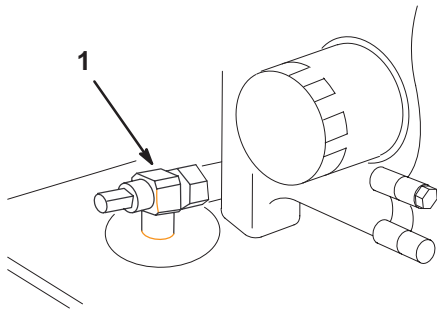

Figure 36
3. Place a pan below the oil drain. Use either a flat screw driver, 3/8 inch wrench, or 10 mm wrench to open the valve (Fig. 36).
4. Rotate the valve end clockwise to close the valve. Rotate the valve end counterclockwise to open the valve (Fig. 36).
5. When the oil has drained completely, close the drain valve (Fig. 36).